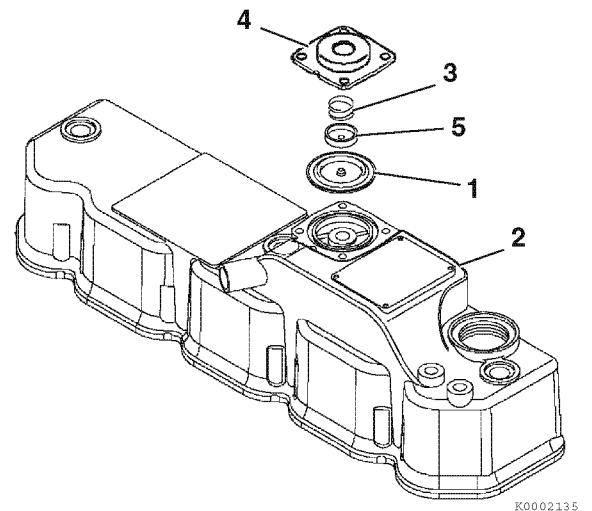

Figure 5-18
The non-turbo TNV engines use a crankcase breather system that has a spring-backed diaphragm (**Figure 5-18, (1)**) in the valve cover (**Figure 5-18, (2)**). When the crankcase pressure reaches a predetermined value, the diaphragm opens a passage that allows crankcase fumes to be routed to the intake manifold.
To inspect the diaphragm and spring (**Figure 5-18, (3)**):
1. Remove the bolts retaining the diaphragm cover (**Figure 5-18, (4)**).
2. Remove the diaphragm cover, spring, diaphragm plate (**Figure 5-18, (5)**) and diaphragm.